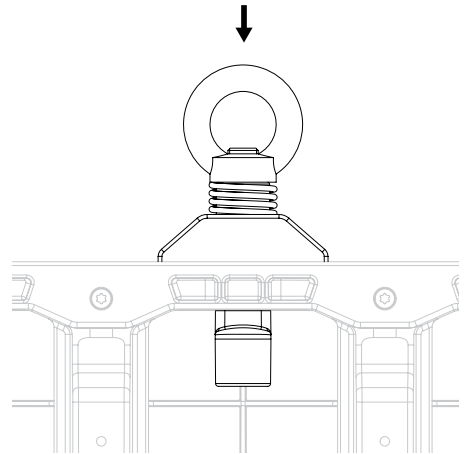

Fig. 8
- Crane Eye is in position. (Fig. 8)